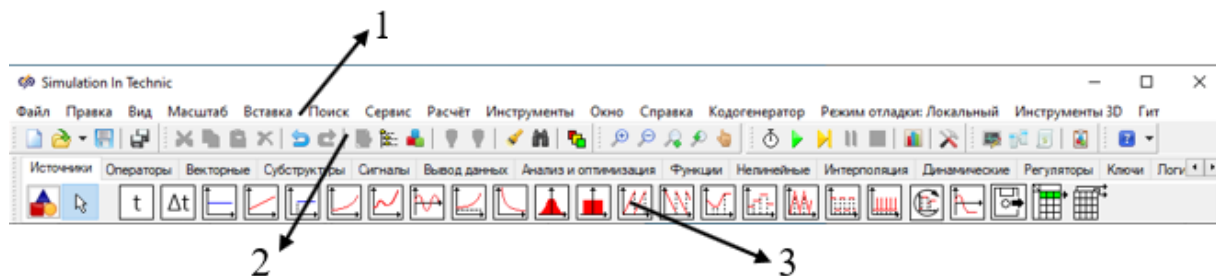

Figure 1
1. Launch the SimInTech program. As a result, the main window with the SimInTech interface appears on the screen, shown in Figure 1 [2].